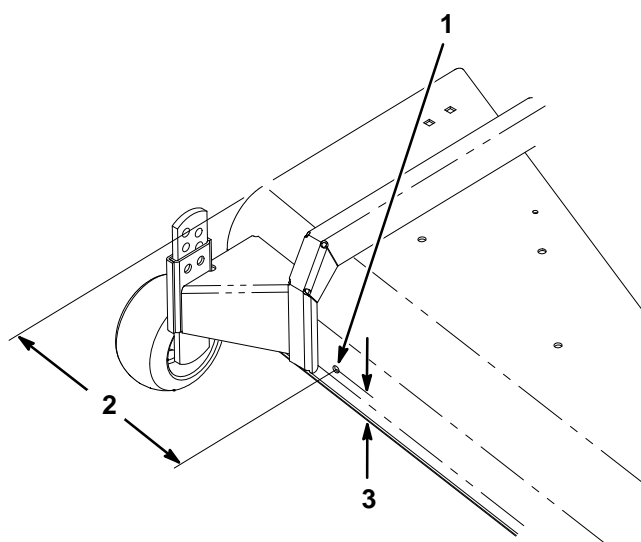

Figure 1
2. Measure the location of lower deflector hole in the front of the mower deck. Center punch and drill one (1) 11/32" hole (Fig. 1).